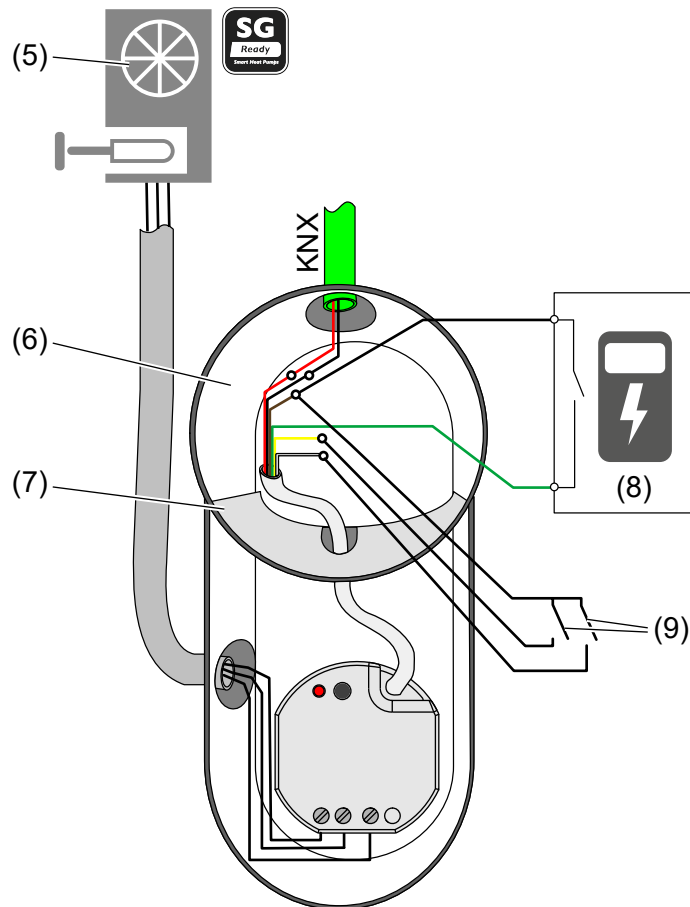
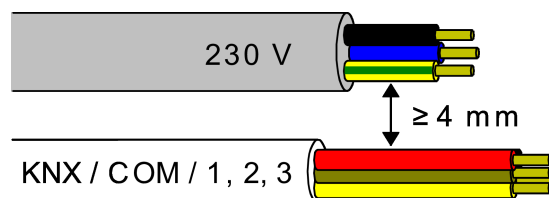

Figure 3: Mounting example, application 1
Figure 6: Cable spacing
Flush mounting in a suitable appliance box (6) (recommendation: electronic appliance box with partition (7)) with suitable cover (see figure 3). Observe the cable routing and spacing (see figure 6)!
- Mount the device (see figure 3).